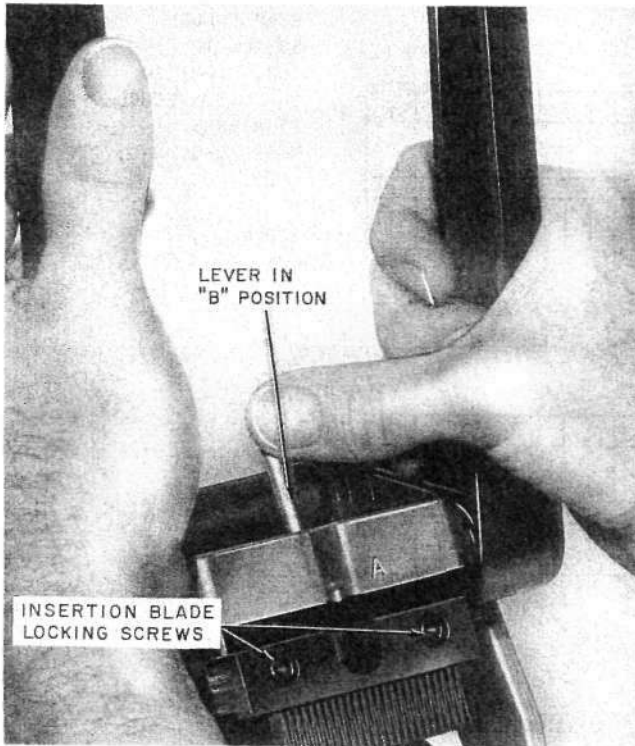

Fig. 15—Setting Selector Lever
**4.06 Insertion Blade**—To take off the insertion blade, use a 5/32 Allen wrench to remove the two screws which hold it (Fig. 15). Lift the part away from the tool. Mount a new insertion blade on the tool with the 2 screws.